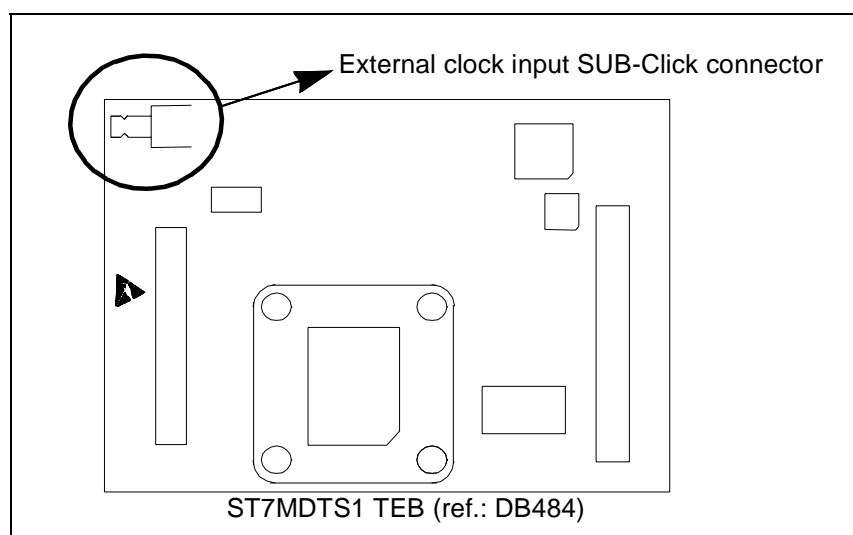

Figure 14: Location of external clock input connector
- A user-provided **External Clock** input SUB-Click located on the DB484 board of the active probe as shown in *Figure 14*.